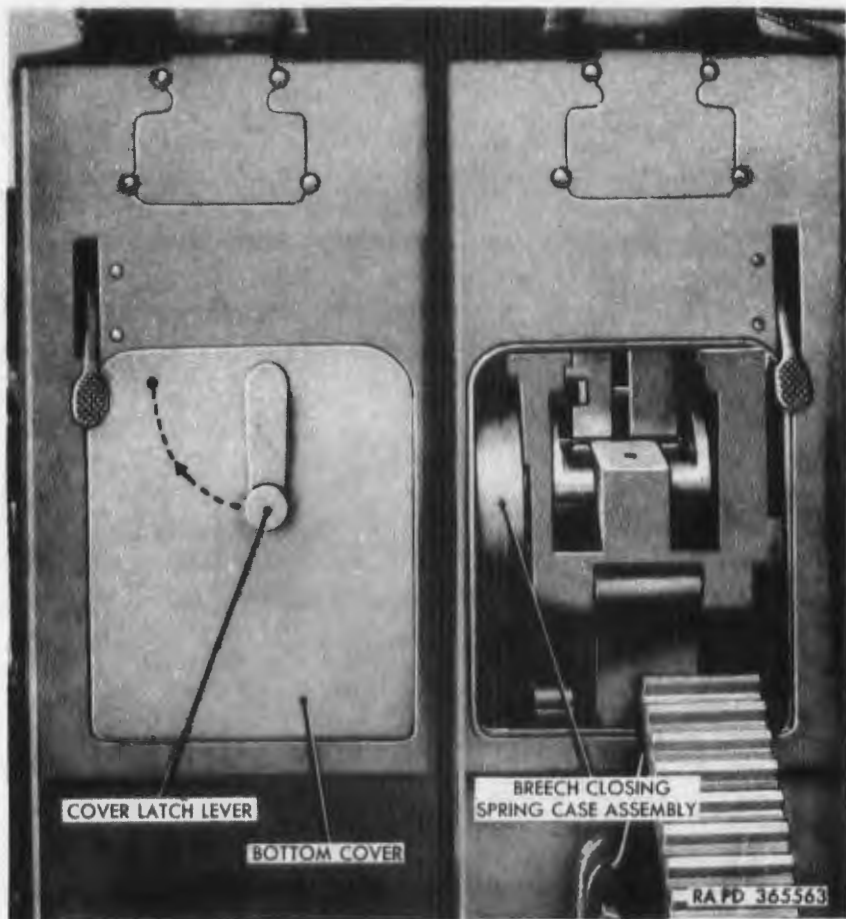

Figure 302. Bottom cover.
- (e) Release bottom cover (fig. 302) by rotating cover latch lever clockwise, and remove cover by disengaging rear flange of cover from breech casing.